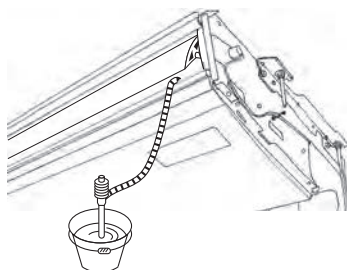

Fig. 5-3
1. Attach the joint socket ⑤ supplied with the unit to the drain port on the unit with a vinyl chloride adhesive.
2. Fasten the socket cover ⑥ supplied with the unit to the joint socket ⑤.
3. Attach the field drain tubing (VP-20) to the joint socket ⑤ with a vinyl chloride adhesive.
4. Wrap the drain tubing cover ⑦ supplied with the unit. (Seam taping)
- ① Drain pan
- ② Drain tubing
- ③ Socket cover ⑥
- ④ Joint socket ⑤
- ⑤ Drain tubing cover ⑦
- ⑥ Insertion length 37 mm
5. Check for correct drainage. (Fig. 5-3)